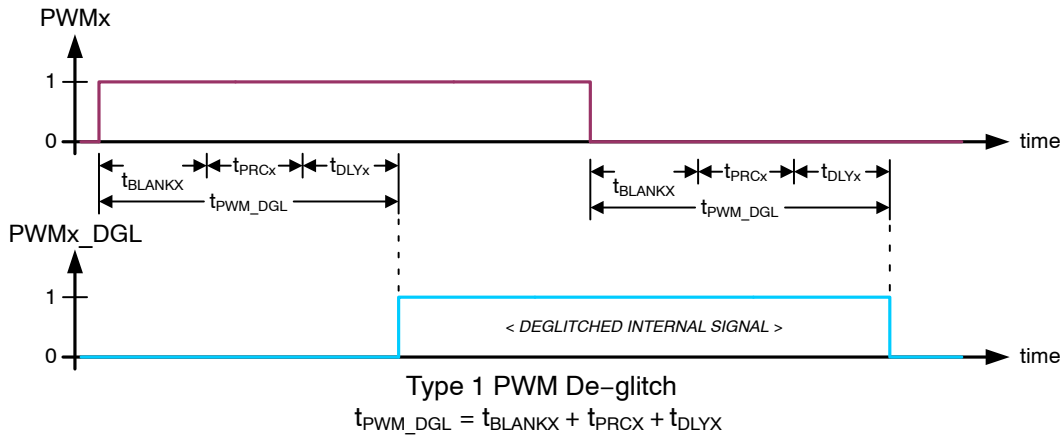
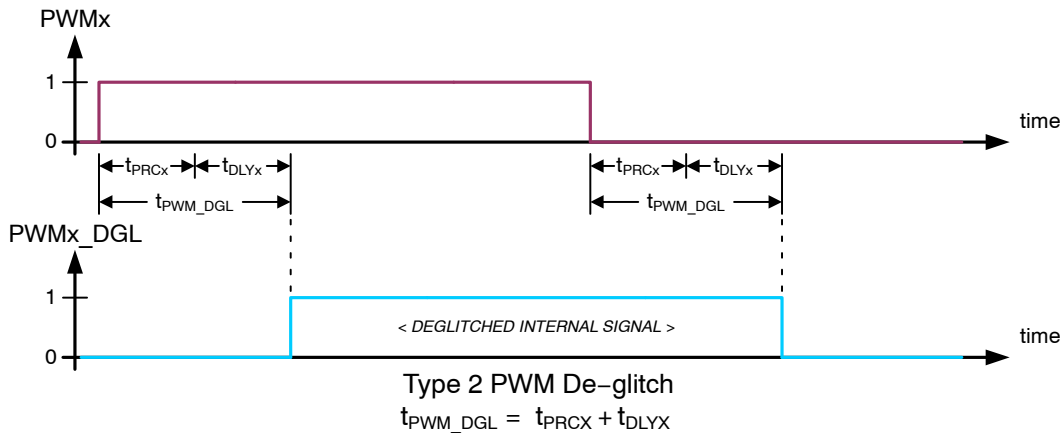

Figure 10. Type 1 PWMx Input De-glitch – CR14.DGLx = 0
Figure 11. Type 2 PWMx Input De-glitch – CR14.DGLx = 1
When multiple PWMx inputs are needed to be active, the scheduled PWM signals should be offset in time to avoid degradation of the VDS overload detection due to crosstalk (see § *Overload Protection*). The minimum offset should be based on the t_{PWM_DGL} times appropriate for the respective channels (see § *Switching Behavior of Half-bridge Drivers*, Figure 10 and Figure 11).
- adaptive PWM input de-glitch construction when in half-bridge configuration is selected by DGLx[6:0] bits (see Figure 10, Figure 11, Table 21 and Table 22).
When operating HB1...HB7 in PWM mode and in half-bridge configuration, type 1 de-glitch is selected when CR14.DGLx = 0 (see Figure 10) and the adapted time is given by:
Type 2 de-glitch is selected when CR14.DGLx = 1 (see Figure 11) and the adapted time is given by:
- the PWMx_DGL resulting from the channel's operating configuration (see § *Switching Behavior of Half-bridge Drivers*, Figure 10 and Figure 11);